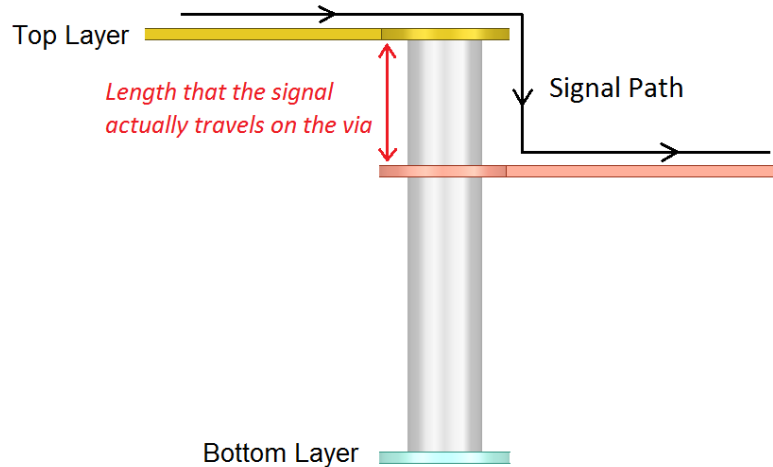

Figure 7. Length that the signal actually travels on the Via
5. At a speed of 2400 MT/s, signal vias can be a significant source of crosstalk. If not properly designed, it can introduce crosstalk larger than that from the trace. To minimize via crosstalk, make sure that the number of vias on each point-to-point signal is no more than 2. For T-topology signal, only 1 via at transmitter, 1 at T-junction, 1 at each receiver is allowed. Place at least one ground stitching via within 50 mils of signal via when switching reference planes to provide continuous return path and reduce crosstalk. If it is not possible to place enough ground stitching vias due to space limitation, try to make the length that the signal actually travels on the via as short as possible, as illustrated in Figure 7.